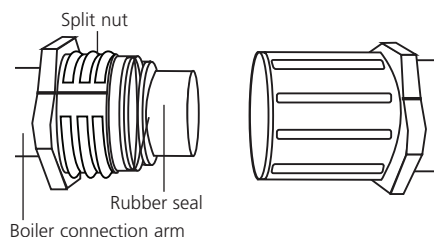

Figure 2b: Boiler coupling
- 11 Refer to fig. 2b. Undo outer nut from plastic coupling. Open split plastic nut and place on outlet of boiler connection arm. Attach level control W4L2A to boiler connection arm ensuring rubber seal, is in position. Secure by screwing split nut into boiler plastic coupling. Ensure that the Rotaflo Stopcock on the W4L2A is closed.